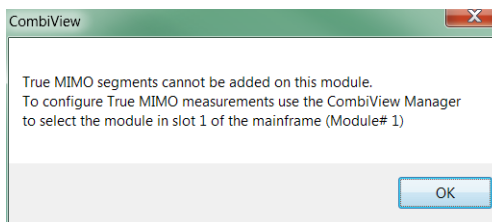

Figure 5-6. True MIMO segments can only be set up on module 1 or 3
1. You can only add true MIMO segments on module 1 or 3. An error is reported if you try to add a true MIMO segment on one of the other modules - Figure 5-6